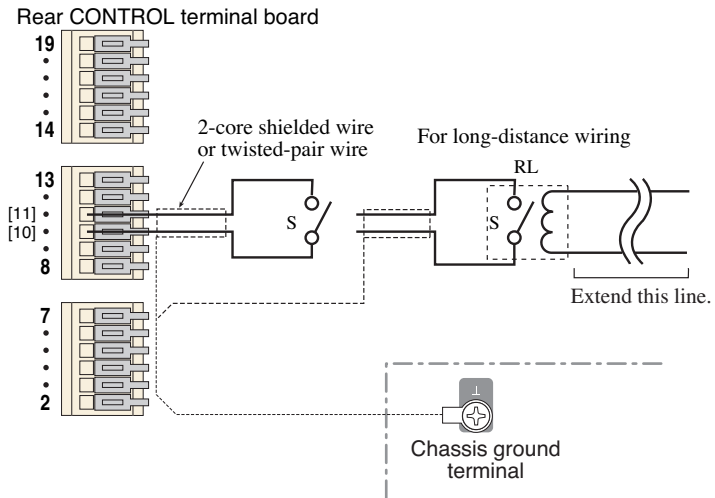

Fig.4-14 Output ON/OFF control connection
3. Connect the contact points S (switch) across the control terminals [10] and [11] as shown in Fig.4-14.